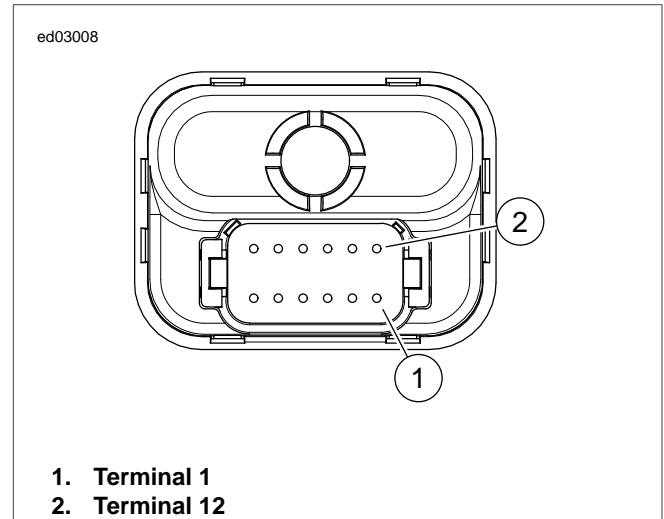

Figure E-11. TSM/TSSM Connector Pins
3. See Figure E-11. Press latches on harness connector [30B].
1. See Figure E-11. Press latches on connector [30B].